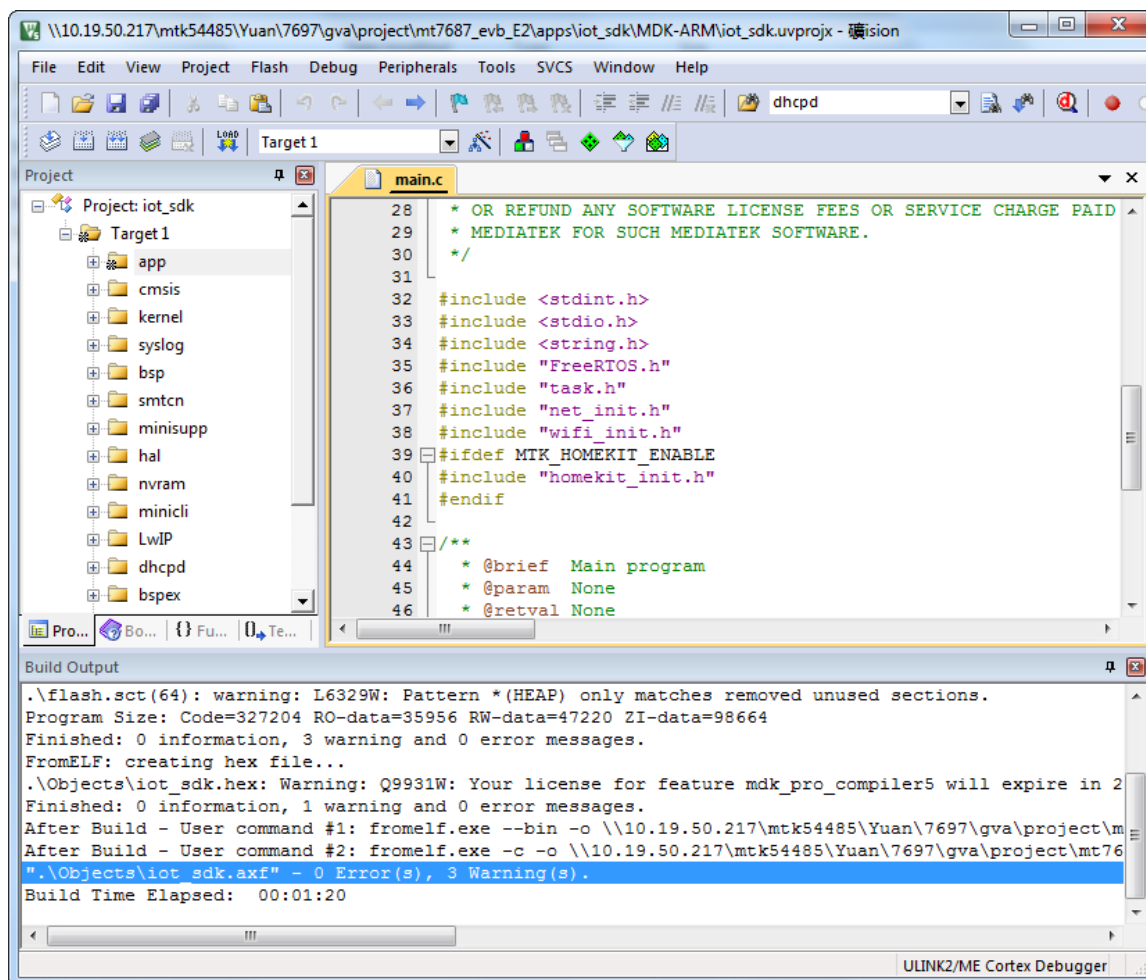

Figure 45. Project build result
- 4) The **Build Output** window is updated with the result, as shown in Figure 45.